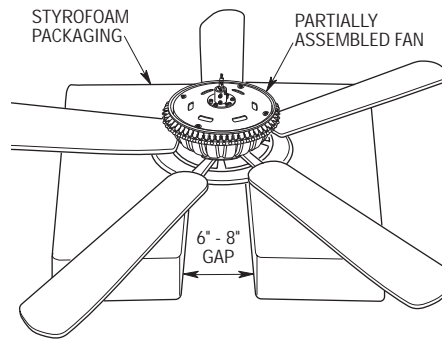

Figure 6
- 10. Position the top and bottom halves of the styrofoam packaging side-by-side on the floor with a six to eight inch gap between the halves (Figure 6). Carefully place the partially assembled ceiling fan on the styrofoam halves, with the light fitter assembly positioned in the gap and the fan assembly resting on the decorative ring.